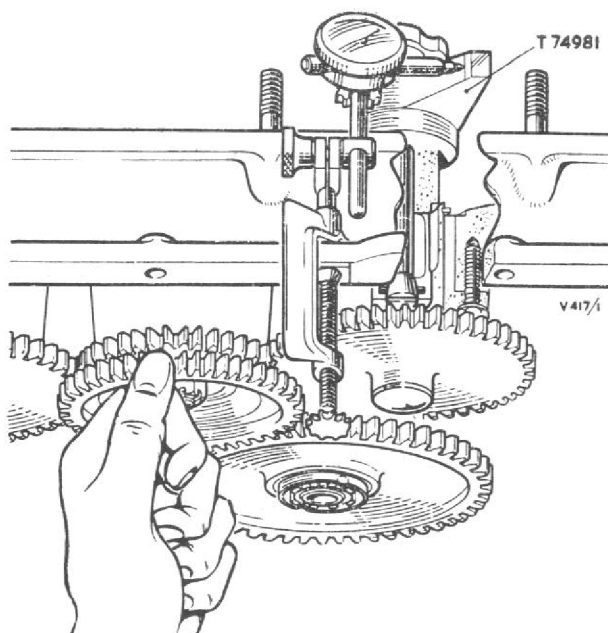

Fig. 7. Checking the backlash between the generator drive gear and the idler gear
19. Secure backlash checking fixture T74981 in the bore of the generator drive gear (95). Clamp a dial test indicator to a convenient part of the face joint and locate the stylus on the scribed line of the checking fixture (fig. 7). Hold the idler gear (82) and check that the